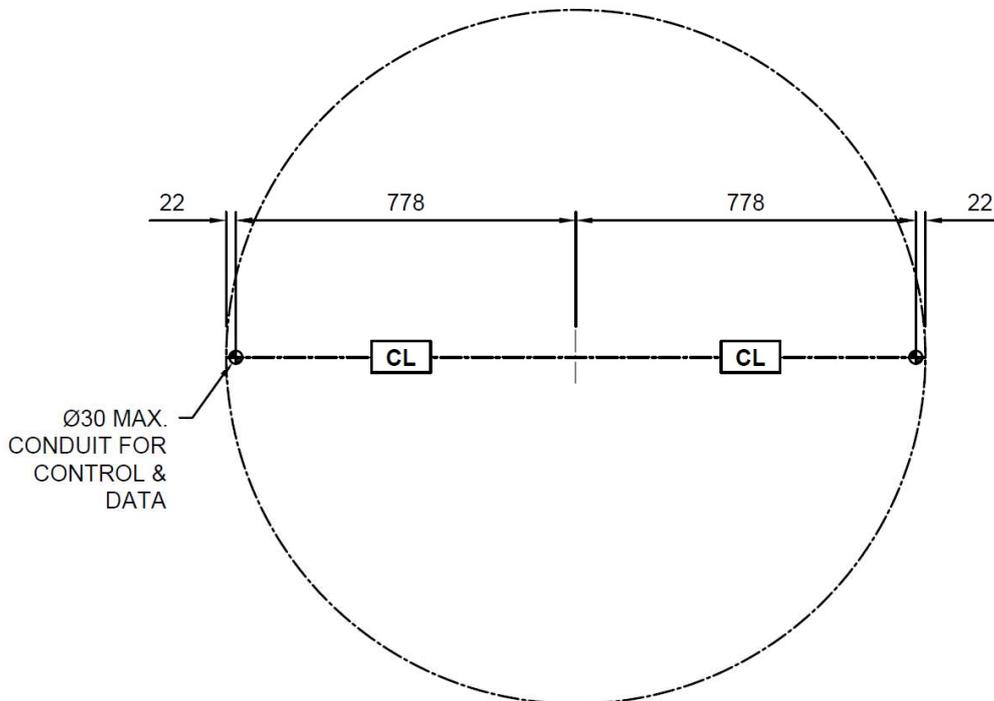

Figure 6: Marking the floor: Step 3
- 4.9. If power and control cables are routed from floor level, either through conduits chased into the floor or core drilled, see *Figure 6* for conduit positions and marking of chalk outline.